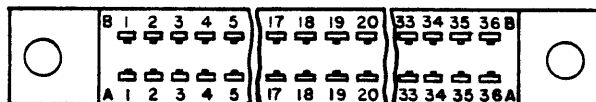

FIGURE 2-3 KI 244 CONNECTOR P2441 NO KEYING
- B. After determining the location of the KI 244 indicator, refer to Figure 2-3 for the mounting hole dimensions.
- E. Slide the KI 244 into the mounting tray. Secure the indicator. Use a 3/32m hex wrench to tighten the locking device located on the lower front of the unit (See Figure 2-3).